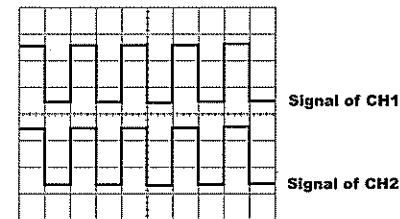

Figure 4-4
Now, apply the calibrator signal to the vertical input terminal of CH 2 with the probe as is the case for CH 1. Set the AC-GND-DC switch to the AC state. Adjust vertical POSITION knobs(11) and (19) so that both channel signals are displayed as shown in Figure4-4